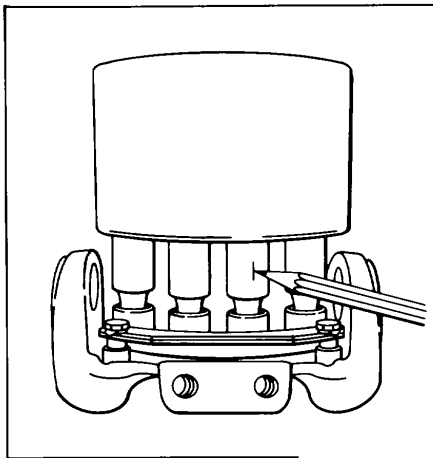

Figure 119.
12. At the factory each block is marked to indicate cylinder bore number one., Mark piston number one with felt pen or a similar devise as a convenient method of preserving the bore/piston relationship. See Fig. 119.